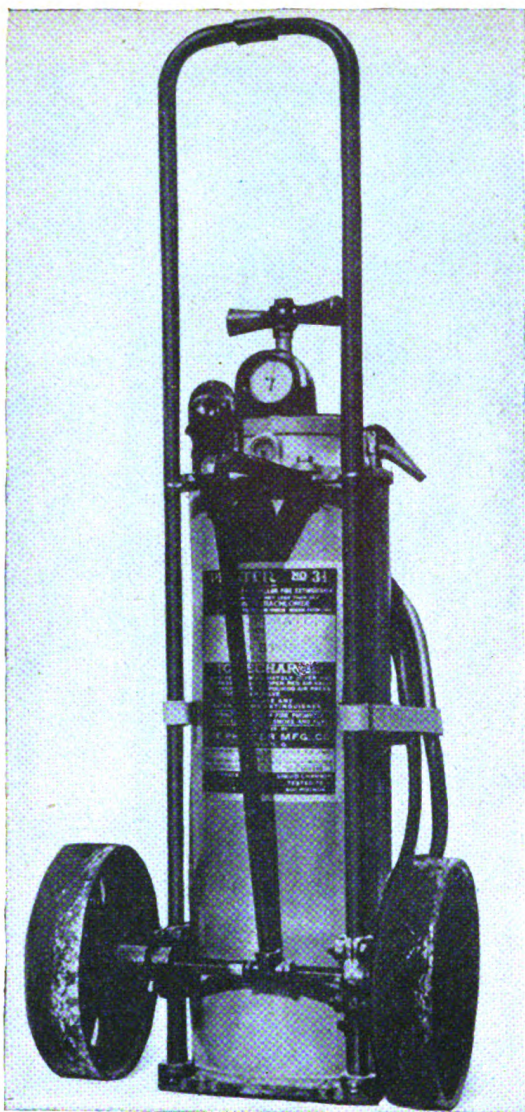

Figure 29. Carbon tetrachloride hand-drawn chemical engine, 3½-gallon capacity. (Stock No. 58-4276.350-035.)
c. THREE AND ONE-HALF-GALLON STORED AIR HAND-DRAWN EXTINGUISHER. The  $3\frac{1}{2}$ -gallon hand-drawn extinguisher (fig. 29) is identical with the 1-gallon type except that it has greater capacity, a longer discharge hose, and is mounted on wheels.